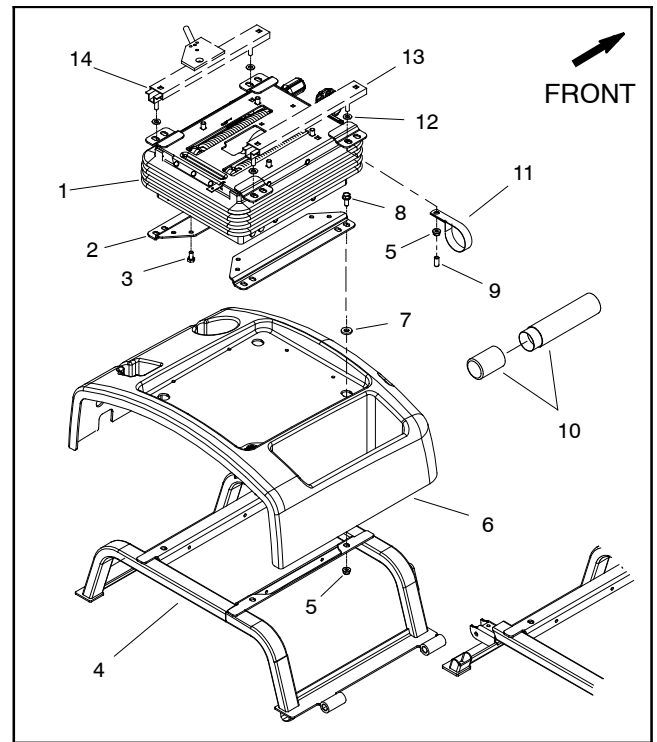

Figure 16
5. Support seat suspension to prevent it from falling. Remove four (4) flange head screws (Figure 16 item 8) and flange nuts (Figure 16 item 5) that secure seat suspension to seat frame.
6. Remove seat suspension from machine. Locate and retrieve four (4) spacers (Figure 16 item 7) from between seat suspension and seat frame.
2. Position seatbase cover and four (4) spacers (Figure 16 item 7) to seat frame.
3. Position seat suspension to seat frame and secure with four (4) flange head screws (Figure 16 item 8) and flange nuts (Figure 16 item 5).